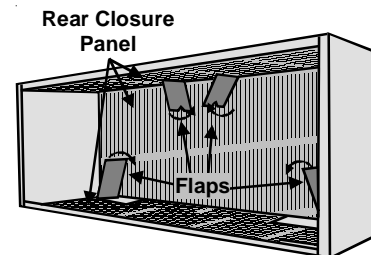

Figure 8 - Rear Enclosure Panel
2. Remove the rear closure panel by folding the four flaps as indicated in Figure 8.